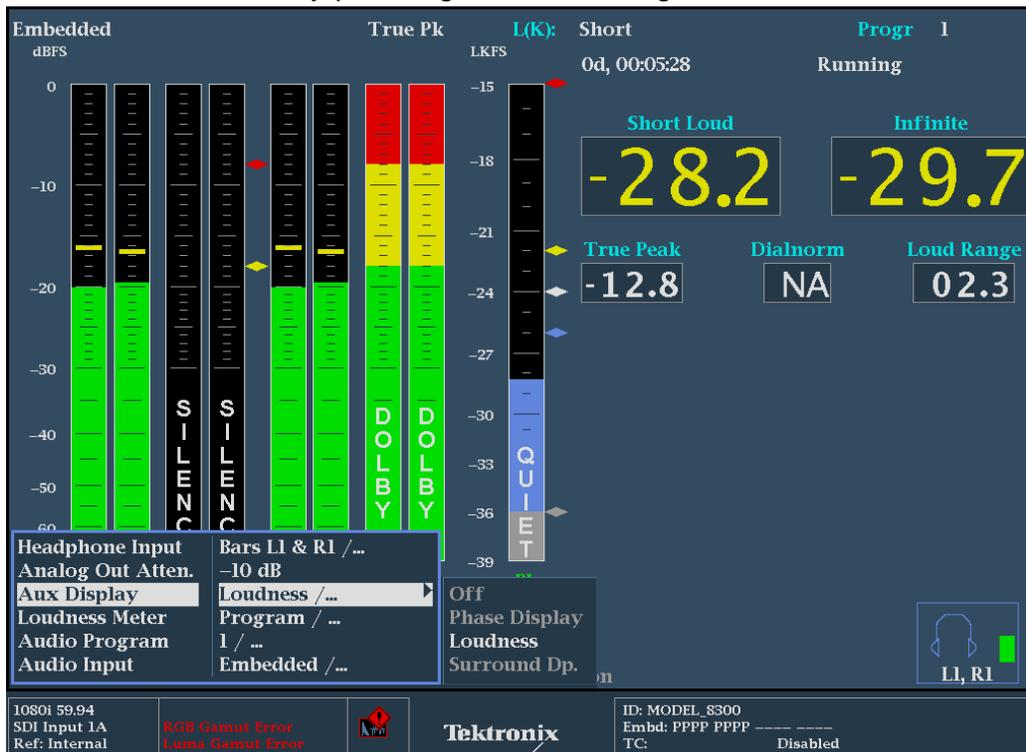

Figure 4. Loudness Readouts within Audio Display.
A user may specifically be interested in the Loudness measurements made by the instruments and to be able to quickly read the values within the audio display. To configure this display as shown in Figure 4 perform the following operations.
5. Enter the sub menu by pressing **SEL** and navigate to the **Loudness** selection (Figure 4)
Figure 4 provides large number readouts for the Short Loudness Duration and Infinite Loudness measurement, along with values for maximum True Peak and Loudness Range measurement, based on the statistical distribution of loudness as defined within EBU R128 and EBU Tech 3342. Loudness Range which is defined within EBU R128 and quantifies the variation of the loudness measurement. The Loudness Range measurement is based on the statistical distribution of loudness within a program.